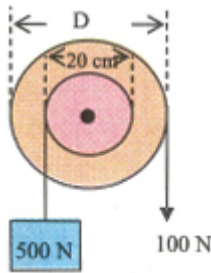

Figure 7.21: Single wheeled pulley
- (b) The efficiency of the wheel and axle shown in Figure 7.21, is 80%, calculate: